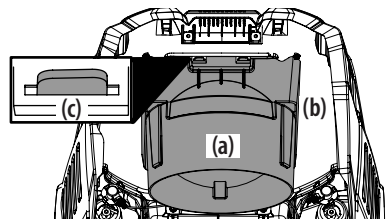

Figure 10
1. Insert the rear tabs (c) as shown in Figure 10.